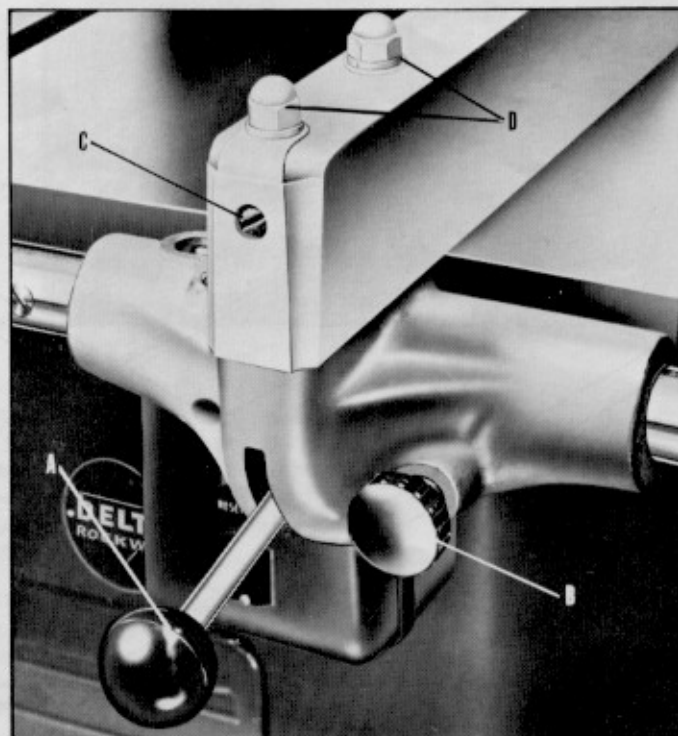

Fig. 10
When the clamp lever (A) Fig. 10, is all the way down, clamping action on the front and rear guide rails should be equal. If clamping action on the rear guide rail is more or less than clamping action of front guide rail, an adjustment of the rear clamp hook is made by turning screw (C) Fig. 10. Turning the screw (C) clockwise will increase tension and turning it counter-clockwise will decrease tension. When lowering clamp lever (A) slowly, you will notice clamp action on front guide rail first and as lever is moved downward to its lowest position, clamp action will take place on rear guide rail.
Your machine is shipped from the factory with the table adjusted so the miter gage slots are parallel to the saw blade. The fence, therefore, should be adjusted so it is parallel to the miter gage slots. To check the rip fence, set it at one of the miter gage slots and tighten the clamp lever (A) Fig. 10. If an adjustment is necessary, loosen the two front cap screws (D) Fig. 10, and raise the clamp lever (A). Move the rear end of the fence body to one side or the other until it is parallel with the miter gage slot. Then lock the clamp lever (A), by pushing it down, and tighten the two clamp screws (D).